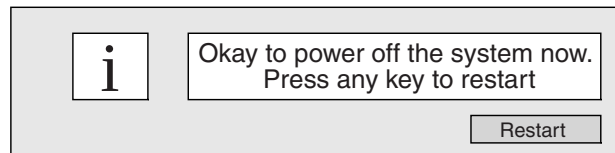

Figure 8-14 Okay to Power Off System - Notification Screen
- 1.) Start or shutdown the system as needed. If the host computer is off, turn it on and proceed to (Step 2.) If the host computer is up and running, bring it down appropriately. After a few seconds, the screen will clear and you'll see a notifier like the one shown in Figure 8-14, Select the RESTART button.
- 1.) Start or shutdown the system as needed. If the host computer is off, turn it on and proceed to (Step 2.). If the host computer is up and running, bring it down appropriately. After a few seconds, the screen will clear and you'll see a notifier like the one shown in Figure 8-14, Select the RESTART button.